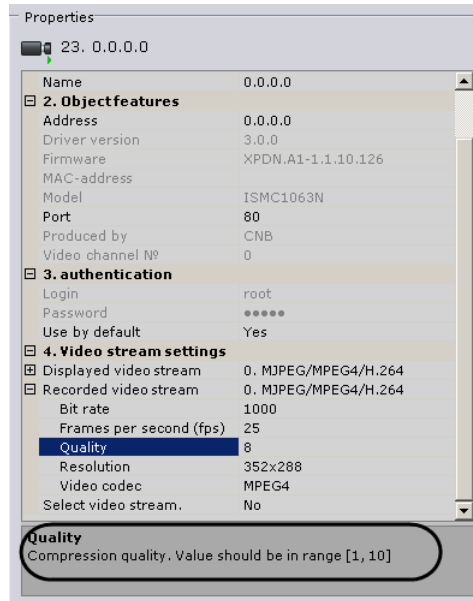

Fig. 6.1—2 Area for displaying parameter descriptions
*NOTE.* As a rule, the parameter description is displayed in a special area under the object properties table when the parameter is selected (Fig. 6.1—2).